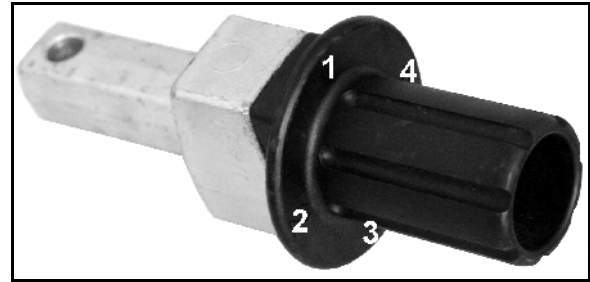

Fig. 42
Fine adjustment is carried out by rotating the eccentric pin (Fig. 42) from position 1 to position 4.
4. Turn the eccentric pin (Fig. 42).